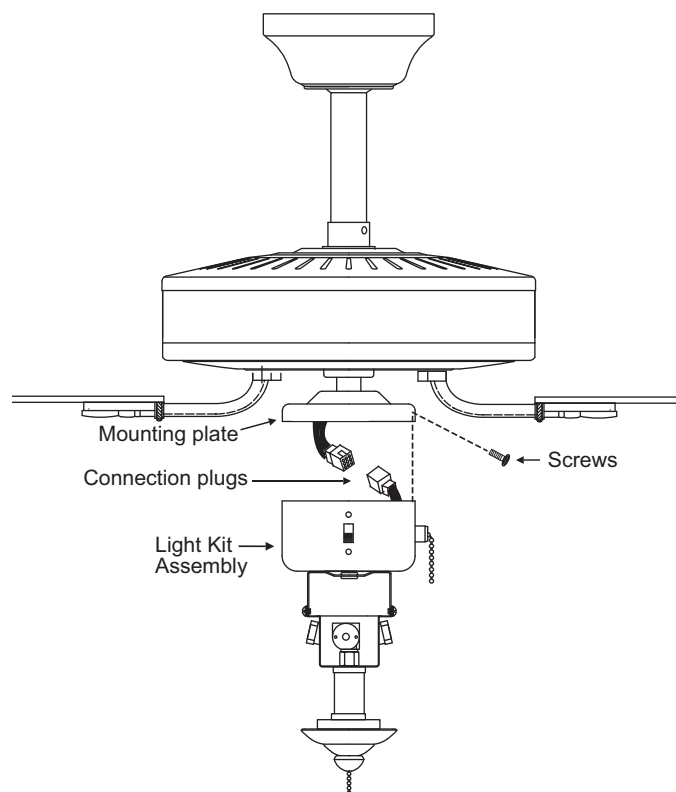

Figure 17
Step 3. Install the light kit onto the mounting plate with 3 screws provided. Be sure to tighten all screws. (Fig. 17)